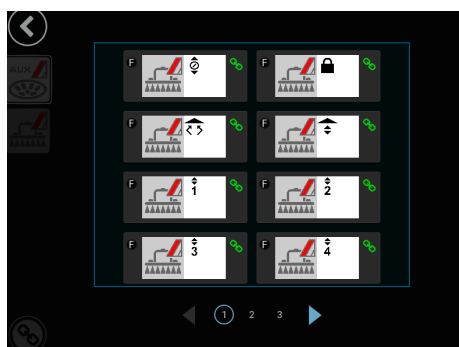

Fig. 109
- Press **CONTINUE**: the display shows the functions that can be assigned (example Fig. 109). Select the desired one. The auxiliary input is now associated with the function.